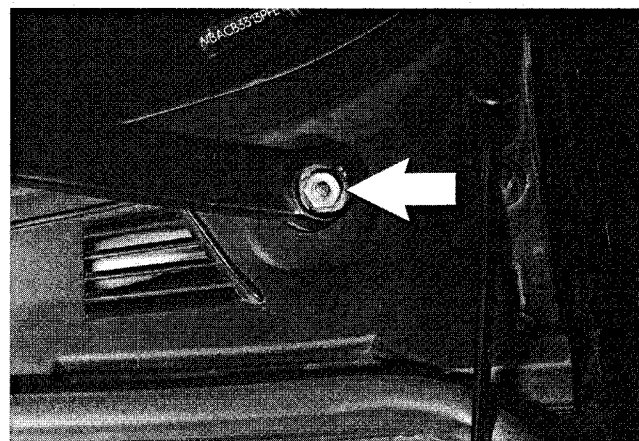

Fig. 3. Wiper arm retaining nut. (arrow).
3. Using a 13 mm socket, remove wiper arm retaining nut and remove wiper arm. See Fig. 3.